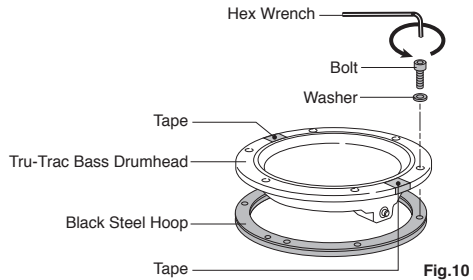

Fig.10
1. Unscrew the bolts on the Tru-Trac Bass Drumhead using the provided Hex Wrench and remove the Black Steel Hoop (Fig. 10).